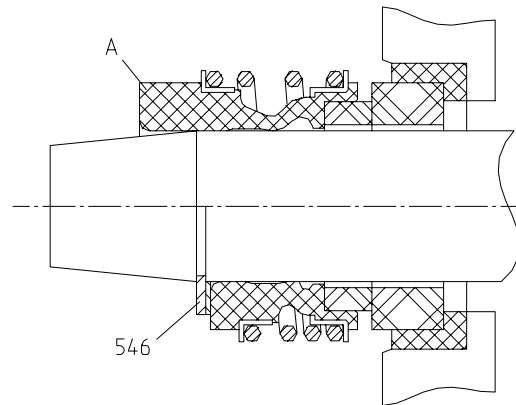

Fig. 11
c) Rubber-bellows seal, external spring - type "G" (Fig. 11)